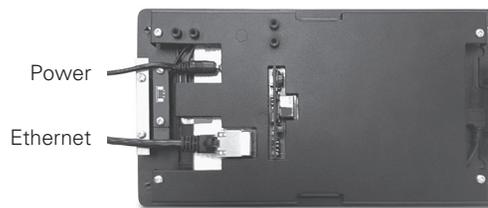

Figure 05
7. Connect the DC power and/or Ethernet CAT5e cable to the TOUCH7 as shown in Figure 05.